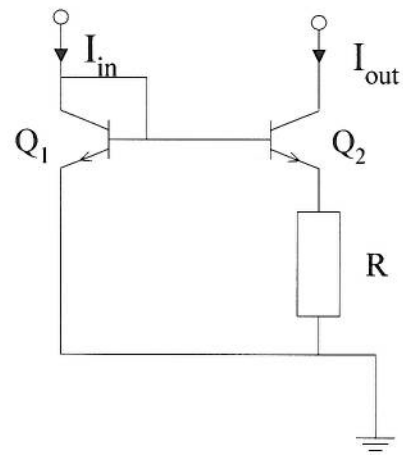

Figure 1.2
- (b) Show that the circuit of Figure 1.2 can be developed into a current source with output current directly proportional to absolute temperature and virtually independent of supply voltage. Since it is likely that on power-up the output current will fall into a zero current state, sketch a suitable start-up circuit that ensures that this condition will not occur and explain the operation of the circuit.